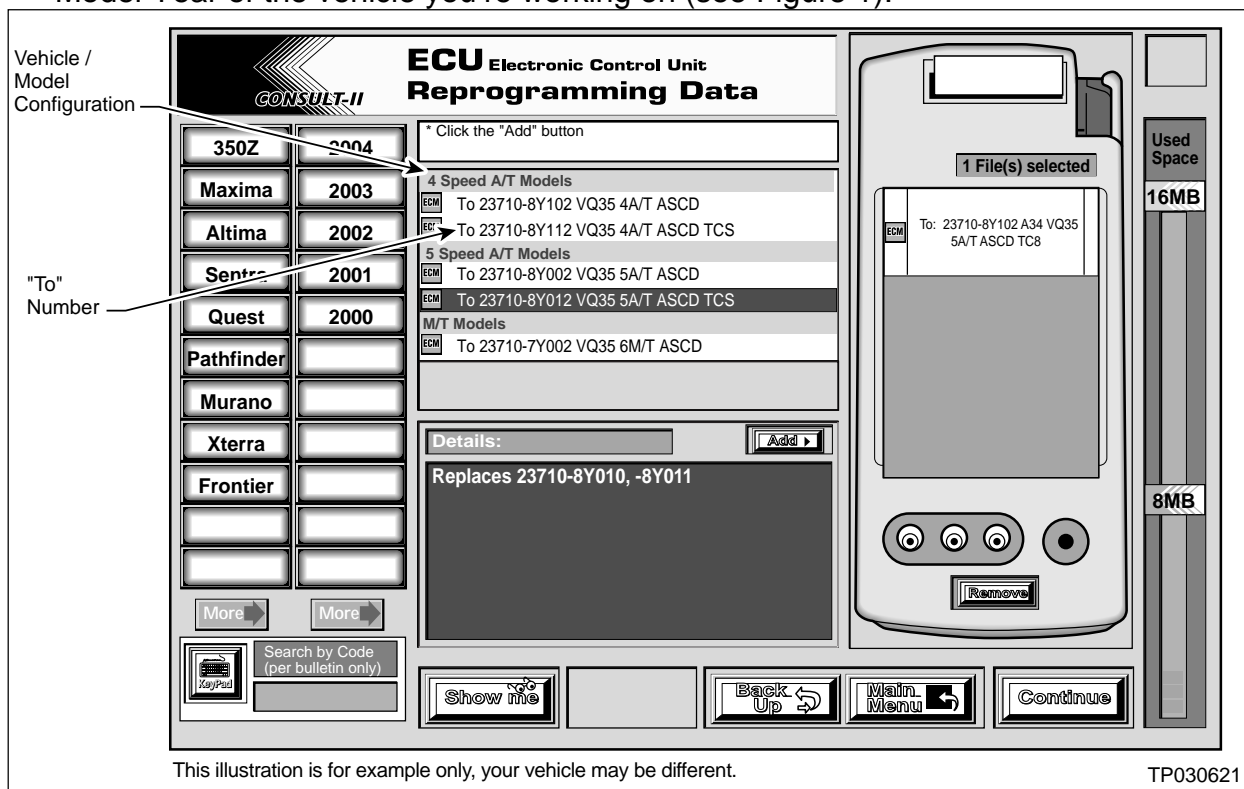

Figure 1
B. Go to ASIST: Select CONSULT Utilities > ECM/TCM Data. Then choose Model and Model Year of the vehicle you’re working on (see Figure 1).
C. Select the “configuration” on the screen for the vehicle you’re working on. Then **make sure** that your current ECM P/N is listed in the “Replaces 23710-XXXXX, -XXXXX, etc” section in the lower, center “Details” panel of the ASIST screen (see Figure 1).